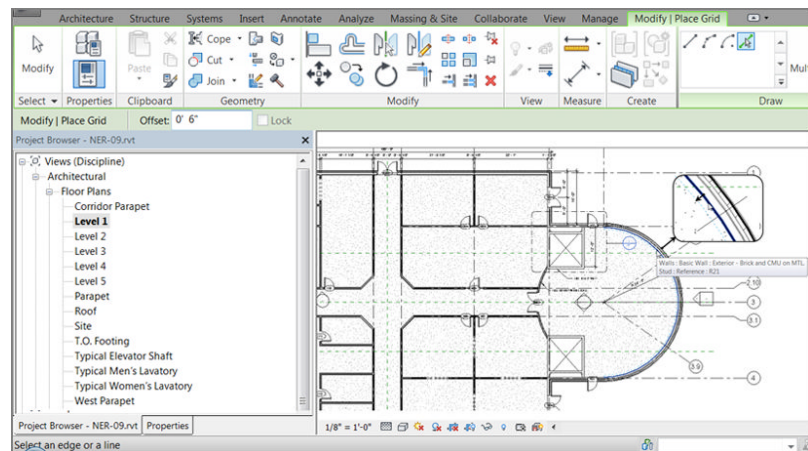

FIGURE 8.19: Adding a grid line offset from the finish inside face
3. On the Draw panel, click the Pick Lines button, as shown in Figure 8.19.
5. Pick the finished, inside face of the radial wall (see Figure 8.19). Make sure the alignment line indicating where the grid will go is on the inside of the wall.